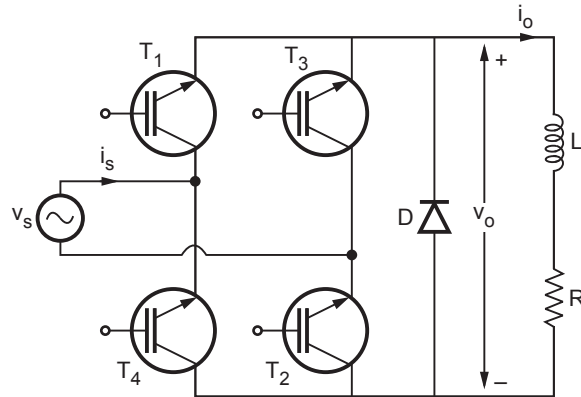
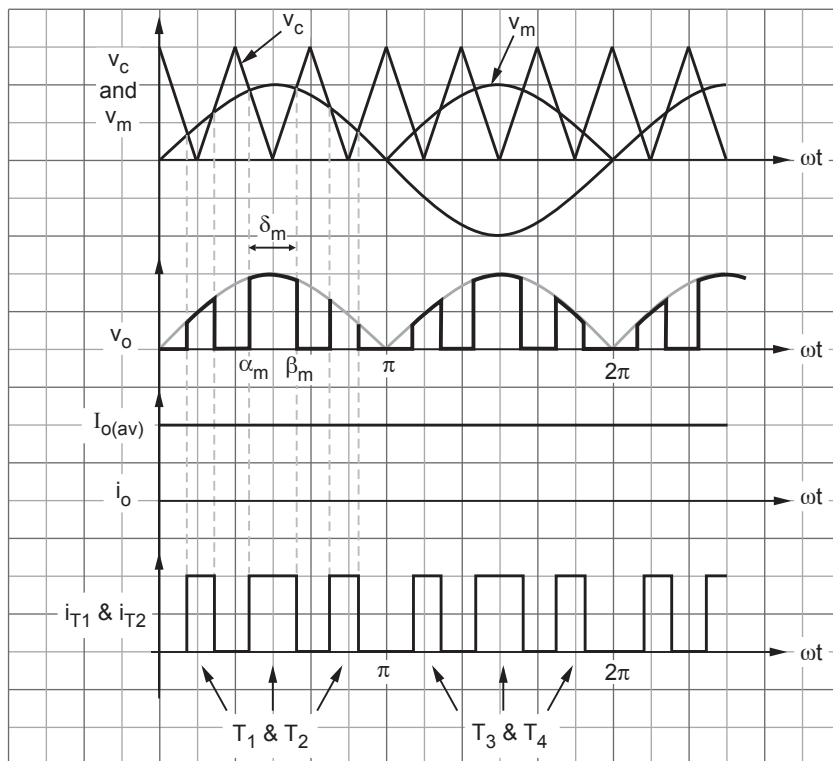

Fig. 2.9.1 1 ϕ IGBT based controlled rectifier
Fig. 2.9.2 Waveforms of IGBT based rectifier
Circuit diagram : Fig. 2.9.1 shows the circuit diagram of 1 ϕ controlled rectifier using IGBT. There are four IGBTs and one freewheeling diode.
- Let us discuss the operation of rectifier of Fig. 2.9.1 for sinusoidal pulse width modulated output. Fig. 2.9.2 shows the waveforms.